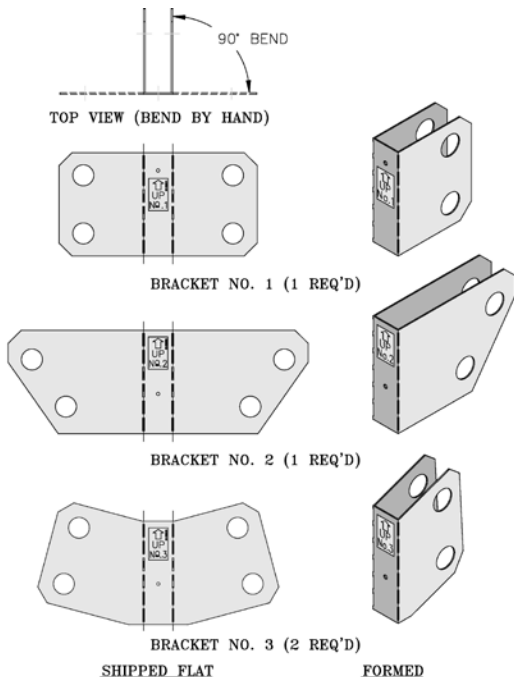

Figure 10: Jacket Intermediate Panel Mounting Brackets
4. (■) Denotes location of 'C' Center Section to which jacket support brackets must be attached during block assembly, see Figure 10 for bracket details.
- LOCATE JACKET INTERMEDIATE PANEL MOUNTING BRACKETS NO. 1, NO. 2 AND NO. 3 IN JACKET CARTON. Brackets are shipped flat and must be formed by hand, bend as shown in Figure 10.
- i. LOCATE JACKET INTERMEDIATE PANEL MOUNTING BRACKETS NO. 1, NO. 2, AND NO. 3 IN JACKET CARTON. Brackets are shipped flat and must be formed by hand, bend as shown in Figure 10.
Brackets are shipped flat and must be formed by hand, bend as shown in Figure 10.